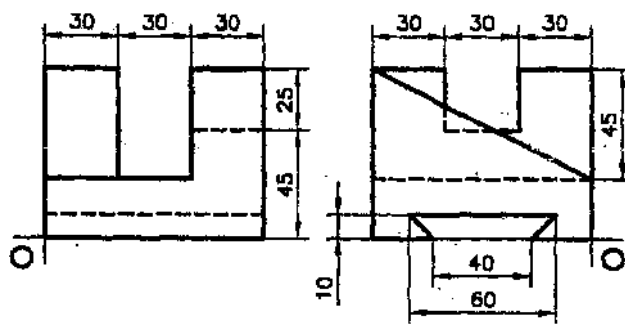

Figure 4
8. Figure 4 shows front view and end view of an object. Draw isometric view and show overall dimensions.